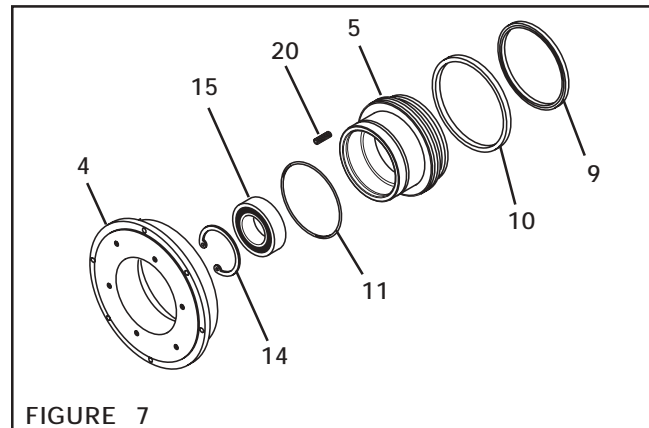

FIGURE 7
11. Slide the Piston (Item 5) and Bearing (Item 15) out of the Brake Housing (Item 4) (See Figure 7).
12. Remove the ten Springs (Item 20) from the Brake Housing (Item 4) (See Figure 7).
13. Remove the Retaining Ring (Item 14) from the Piston (Item 5) (See Figure 7).
14. Press the old Bearing (Item 15) out of the Piston (Item 5) (See Figure 7).
15. Clean the bearing bore of the Piston (Item 5) with fresh safety solvent, making sure all old Loctite® residue has been removed (See Figure 7).
16. Apply an adequate amount of Loctite® 680 to evenly coat the outer race of the new Bearing (Item 15) (See Figure 7).
17. Carefully align the outer race of the new Bearing (Item 15) with the bore of the Piston (Item 5) and press the new Bearing into place (See Figure 7).
18. Reinstall the Retaining Ring (Item 14) (See Figure 7).
19. Remove the old O-ring Seal (Item 11) and the two old Hydraulic Seals (Items 9 and 10) from the Piston (Item 5) (See Figure 7).
20. Lubricate the new O-ring Seal (Item 11) and the two Hydraulic Seals (Items 9 and 10) with a thin film of Lubriplate® O-ring lubricant (See Figure 7).
21. Install the new O-ring Seal (Item 11) and the two new Hydraulic Seals (Items 9 and 10) (See Figure 7).
23. Slide the Piston (Item 5) and Bearing (Item 15) into the Brake Housing (Item 4) (See Figure 7).